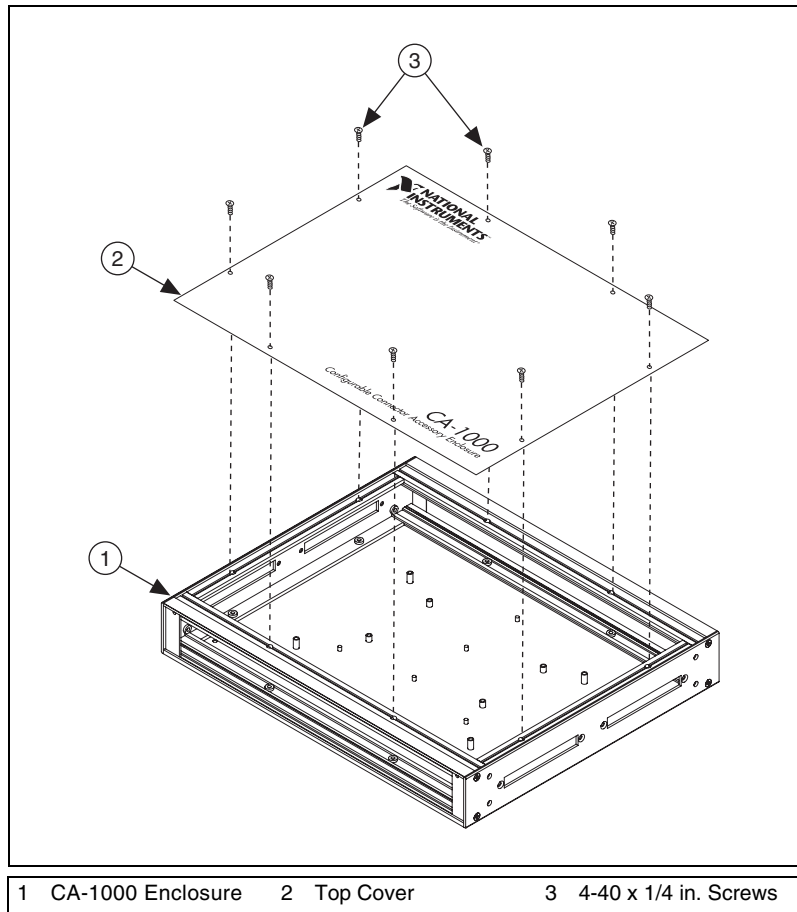

Figure 11. Remove Cover from CA-1000 Enclosure
2. Remove the eight 4-40 × 1/4 in. flathead Phillips-head screws from the top cover of the CA-1000, as shown in Figure 11.
11. Replace the top cover of the CA-1000 by replacing the screws you removed in step 2. Refer to Figure 11 for an illustration.